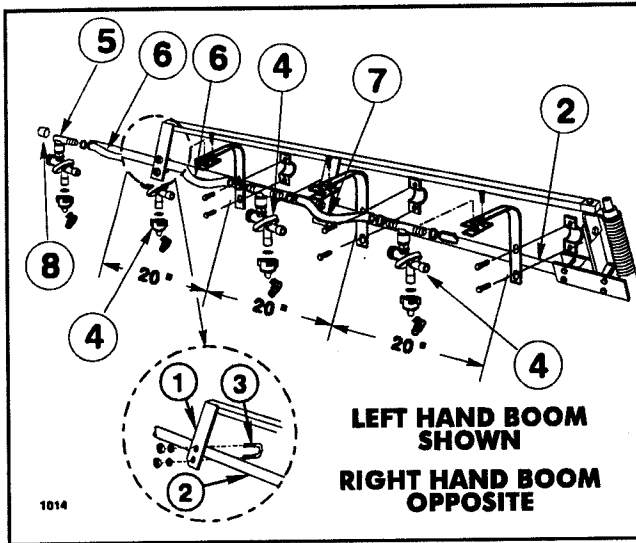

Figure 7
15. Secure the two plates of the Boom Support Assembly to the Extension Boom Pipe, Using two (2) 1/4" U-bolts, four (4) lock nuts and flat washers. (See FIG. 7.)
18. Attach three double barb and one single barb Nozzle Bodies with Clamp Assemblies on each Extension Boom Pipe as shown in FIG. 7. Nozzles are to be spaced on 20 inch centers. Connect the Nozzle Assemblies with the 3/4" x 19" Jumper Hoses and 3/4" x 21" Jumper Hose. Secure with hose clamps.